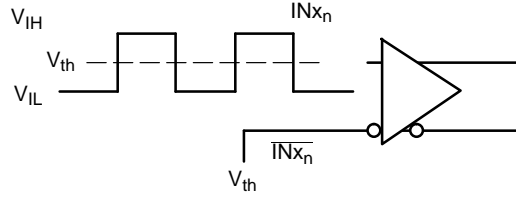
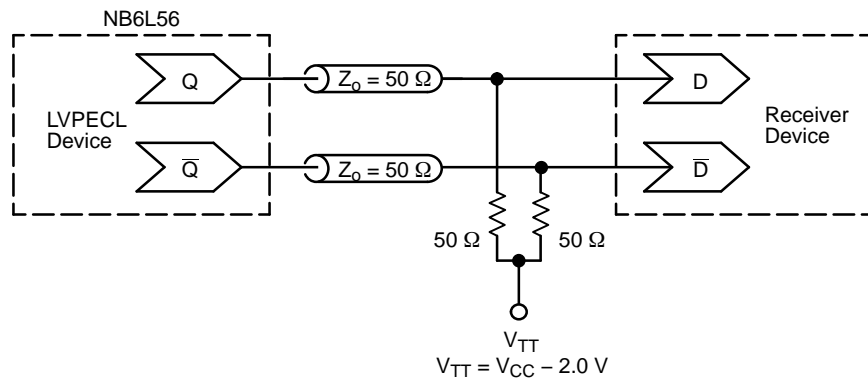

Figure 5. Differential Input Driven Single-Ended
Figure 16. Typical Termination for LVPECL Output Driver and Device Evaluation
DIFFERENTIAL INPUT DRIVEN SINGLE-ENDED (Note 6) (Figures 5 and 6)
5. Outputs evaluated with 50 Ω resistors to $V_{TT} = V_{CC} - 2.0$ V for proper operation (See Figure 16).
8. Differential 50% duty cycle at $V_{INPPmin}$ clock source. Outputs evaluated with 50 Ω resistors to $V_{TT} = V_{CC} - 2.0$ V (See Figure 16). Input crosspoint to output crosspoint for INxn/INxn to Qx, \overline{Qx} ; 50% input to output crosspoint for SELx to Qx, \overline{Qx} . See Figures 5, 10 and 11.